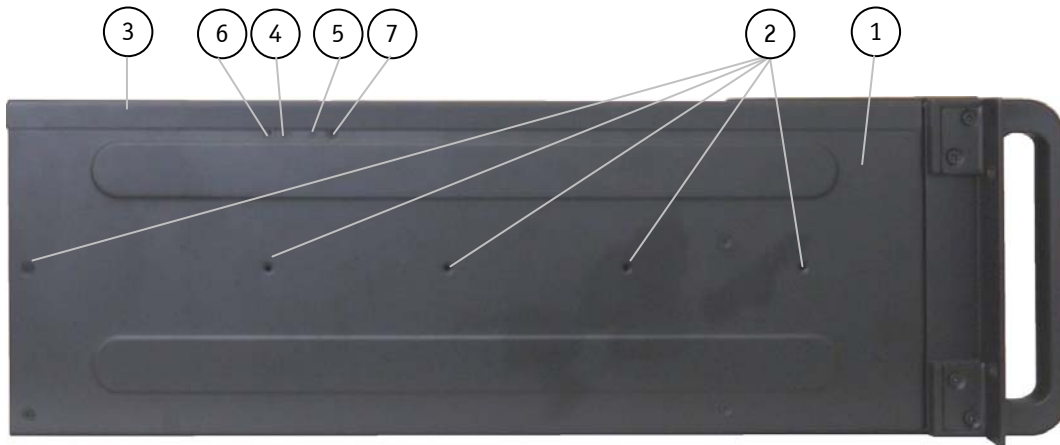

Fig. 15: VRack 4U platform – side view
Five M4 metric tapped holes are available at the left and right side of the unit (Fig. 15, pos. 2). These can be used in order to attach slide rails [not included; see chapter 11 “Slide Rails (Option)”] to the VRack 4U platform for system installation into a 19” industrial cabinet.